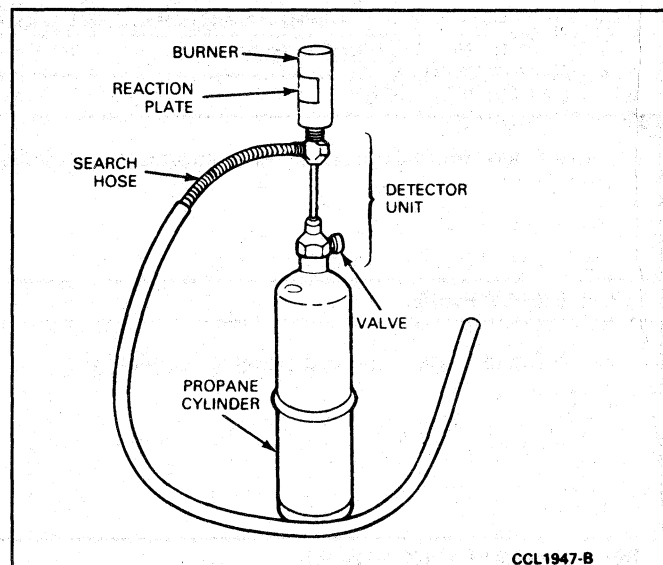

FIG. 16 Leak Detector—Flame Type
**CAUTION: Avoid inhaling fumes from Rotunda Flame-Type Leak Detector 023-0006 or equivalent (Fig. 16).**